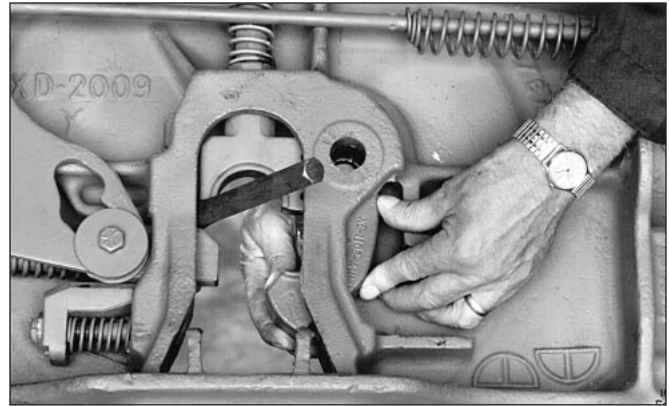

Figure 10
7. Place the hinged lock into position (*see Figure 10*). Drive the lock pin (*ITEM 17*) through the top plate and pin hole of the hinged lock. Secure with cotter pin (*ITEM 18*).